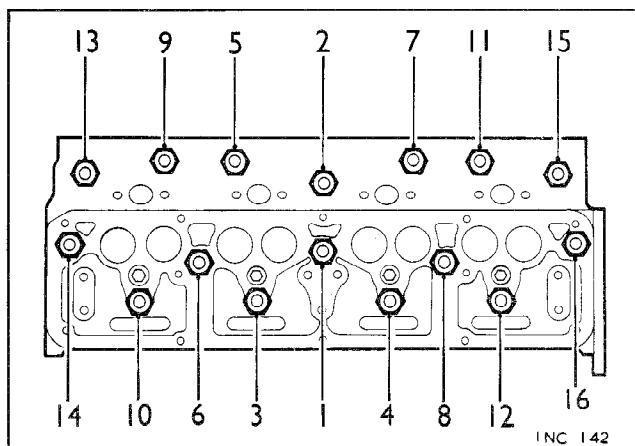
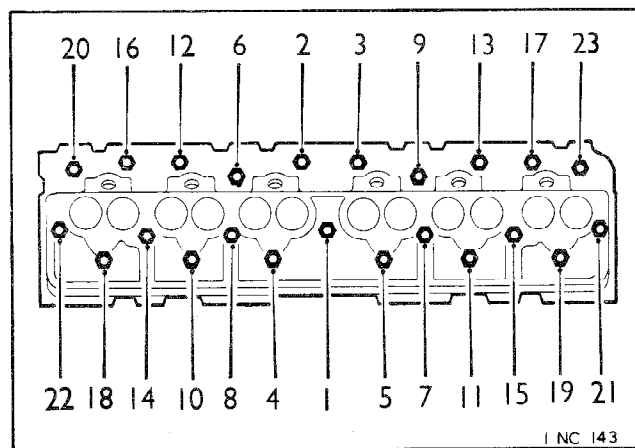

Fig. 2
Fig. 3
- l. Tighten the cylinder head nuts in the order shown in Fig. 2 or Fig. 3.
- a. Run the engine until it reaches its normal working temperature, then run it for a further half-hour. Stop the engine and slacken, then tighten, to the correct torque, each cylinder head nut one flat in the sequence shown in Fig. 2 or Fig. 3. ●